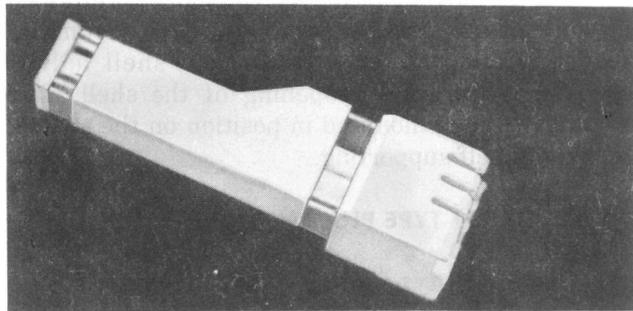

Fig. 1—459-Type Plug (3-Wire Switches)
1.03 The 459-type plug (Fig. 1 and 2) consists of a 2-part, molded shell containing preformed contact springs and, in some cases, a grounding spring. Clamp springs fasten the shell halves together and prevent reopening of the shell after assembly. When mounted in position on the switch, the plug is self-supporting.